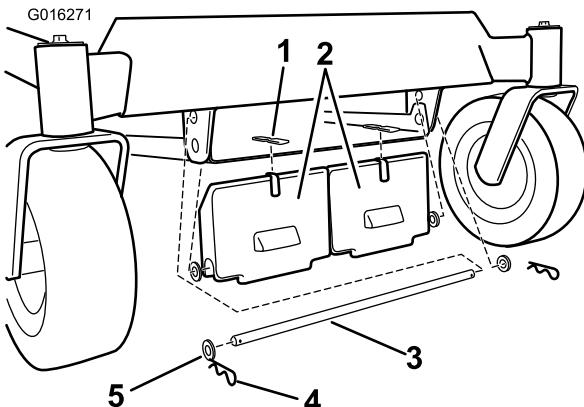
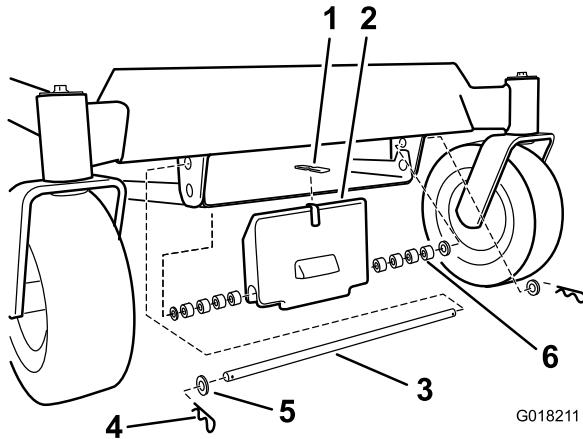

Figure 2
Figure 3
3. Install an adhesive bumper to the weight (Figure 2 and Figure 3).
5. Secure the weight with a rod, four washers, and two hair pins as shown in Figure 2. Use the 8 spacers if installing just one front weight as shown in Figure 3.